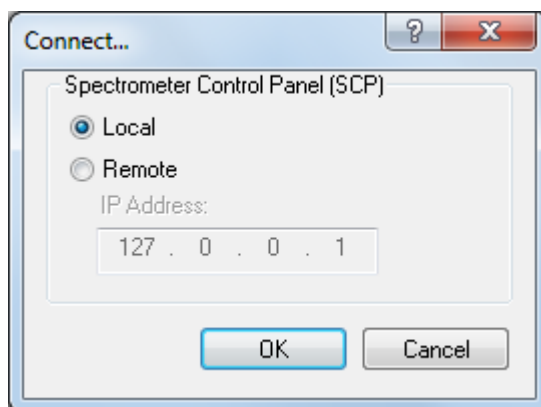

Figure 5-22: the Connect dialog box
- The online status is set by clicking **Go on-line**, which will display the **Connect** dialog box (Figure 5-22) on which you will be asked to supply the SX20-LED IP Address. It is used when Pro-Data Viewer has been started as a stand-alone program and you want subsequently to establish a link with the spectrometer control program (SCP). If the two programs are running on the same computer, select **Local** in the Connect window. The IP address under these circumstances is always the default 127.0.0.1.